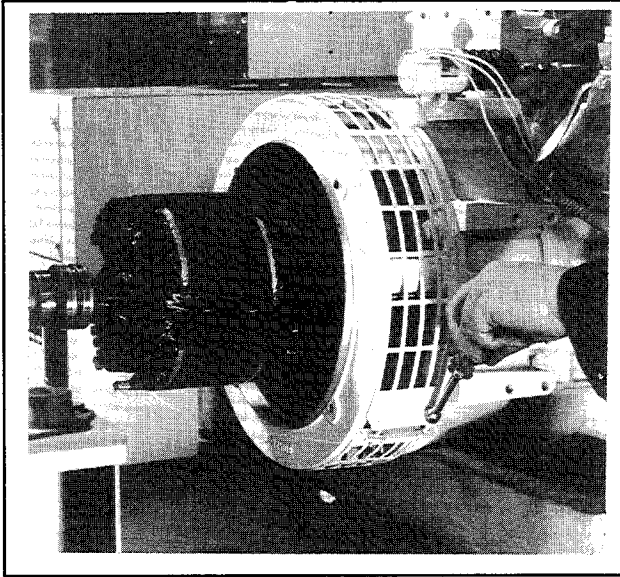

Figure 8-14. Removing Fan Guard
17. Remove two screws and nuts securing fan guard on generator adapter. See Figure 8-14.